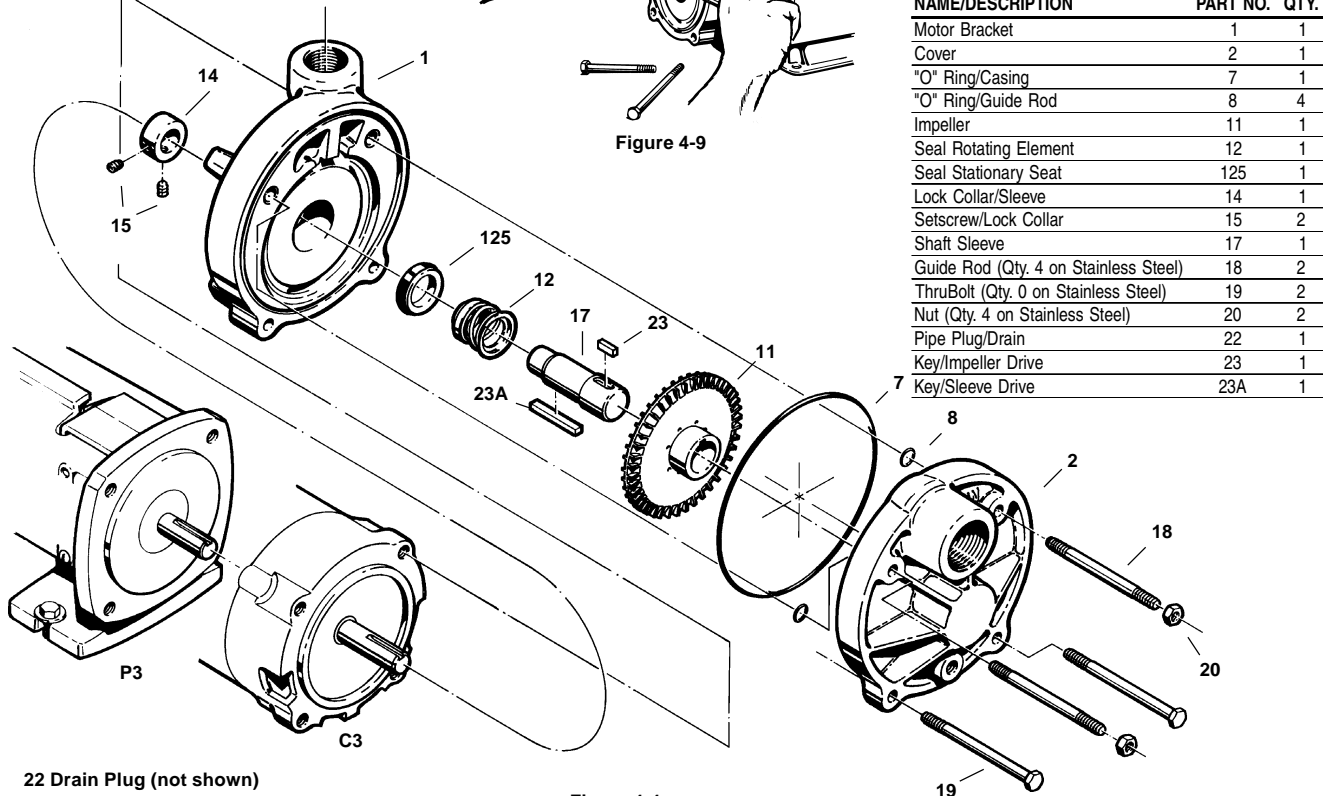

Figure 4-4
Exploded views of each unit, Figures 4-4, 4-5, 4-11, and 4-12, are provided for referencing the numbers in the following procedures, i.e. (#1), motor bracket.
Refer to Figures 4-4 and 4-5 for reference to the numbered parts in the procedures below.
- c. The impeller hub should be facing out away from the motor bracket. Refer to Figure 4-4 and 4-5.
6. Place the cover over the studs and install the two (2) 3/8" nuts and two (2) 3/8"x4" bolts. Tighten the nuts and bolts systematically, alternating diagonally across the cover.
7. After the nuts and bolts are "snugged up", make sure the impeller is not binding by inserting a 5/32" hex wrench into the locking collar and moving it left to right. The collar should rotate with little or no resistance. If the collar will not turn, loosen the two (2) 3/8" nuts and bolts equally until the impeller moves freely.